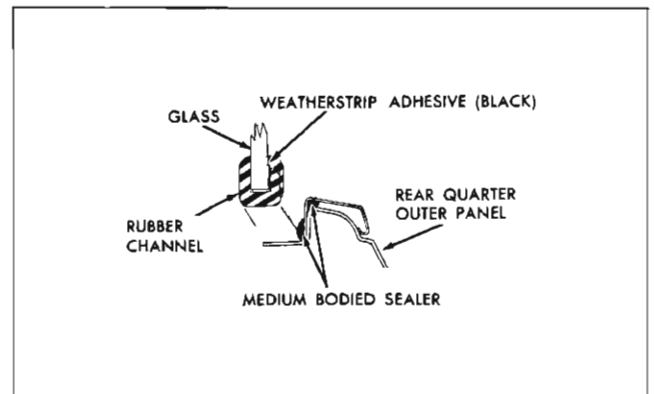

Fig. 79—Stationary Window Sealing
4. Using a plews oiler or any other suitable applicator, apply an approved weatherstrip adhesive (black) between glass and outer wall of rubber channel completely around window. Clean off excess sealer (fig. 79).
2. Remove rear compartment lid lock attaching screws (fig. 79) and remove lock assembly.